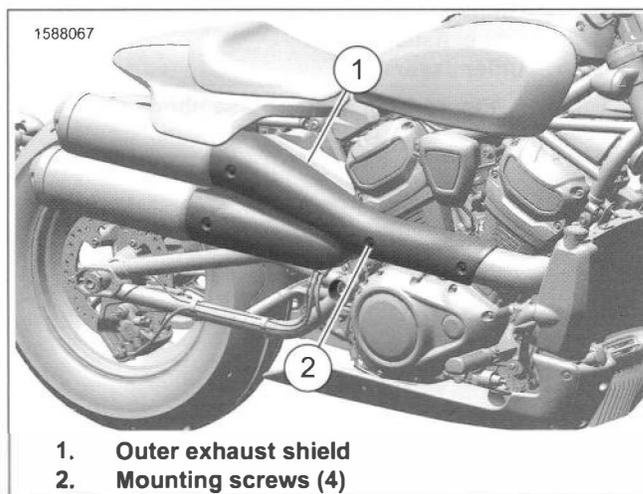
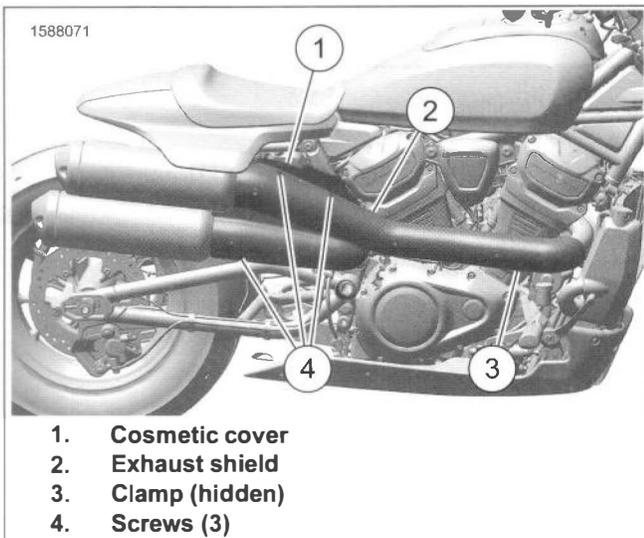
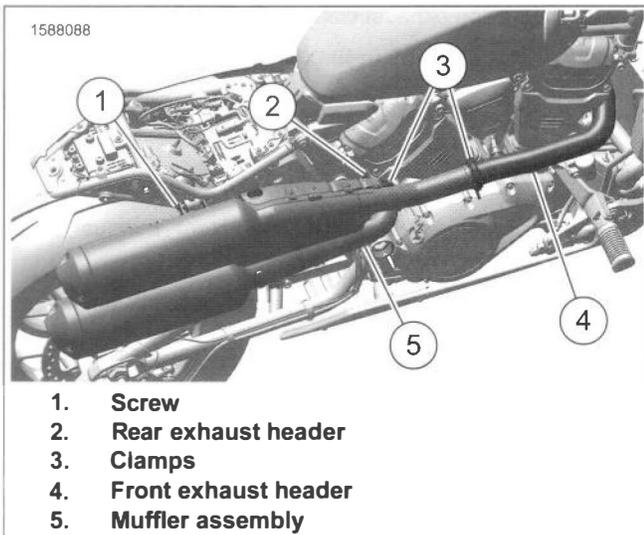
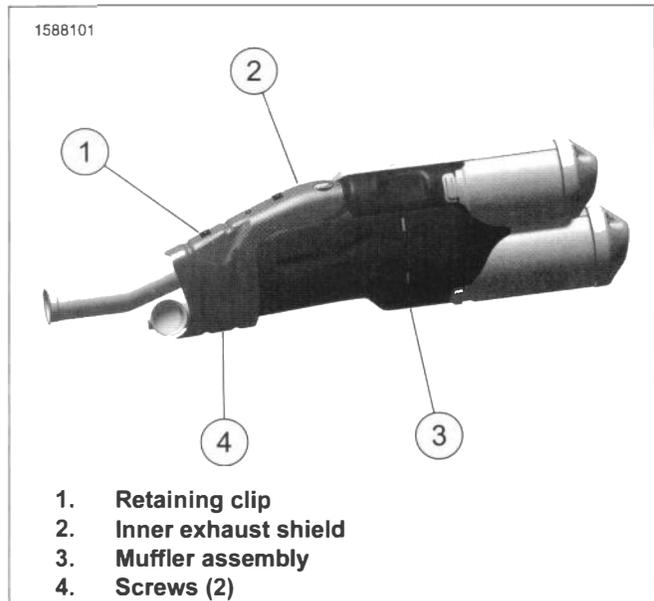

Figure 6-37. Outer Exhaust Shield
Figure 6-38. Exhaust Shield
Figure 6-39. Muffler Assembly
Figure 6-40. Exhaust Shield (Inner)
- a. See Figure 6-37. Remove screws (2).
- b. Remove outer exhaust shield (1).
- a. See Figure 6-38. Remove screw (4).
- b. Remove exhaust shield (2).
3. See Figure 6-39. Remove muffler assembly.
- a. Remove exhaust pipe clamps (3) and discard.
- b. Remove screw (1).
- c. Remove muffler assembly (5).
4. See Figure 6-40. Remove inner exhaust shield.
- a. Remove screws (4).
- a. See Figure 6-40. Install inner exhaust shield (2).
- b. Install mounting screw (4). Tighten.
- b. See Figure 6-39. Install muffler (5) with new clamps (3), keep clamp loose.
- d. Position exhaust clamps (3). Tighten.
- e. See Figure 6-38. Install exhaust outer heat shield (2).
- f. Install exhaust shield screw (4). Tighten.
- g. See Figure 6-37. Install outer exhaust shield (1).
- h. Install outer exhaust shield screws (2). Tighten.